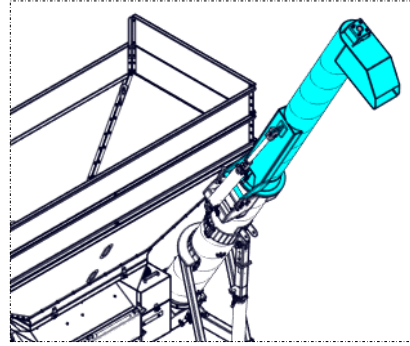

Figure 4.12
- 2) Continue until the upper section of the auger is in line with the lower section (Figure 4.12).